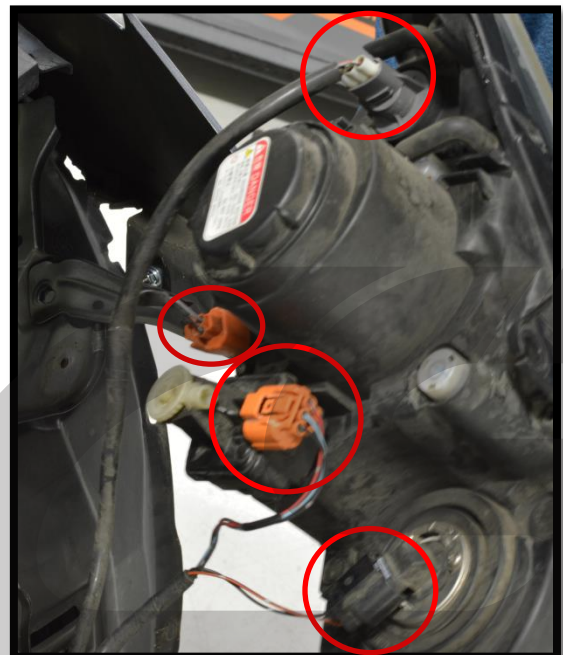

Figure 3b
- c) Gently pull on the headlight to release it from its mounting. Then, remove the four (4) electrical connectors from the backside of the headlight. Shown circled in red in Figure 3b. It will now be free to remove from the vehicle.